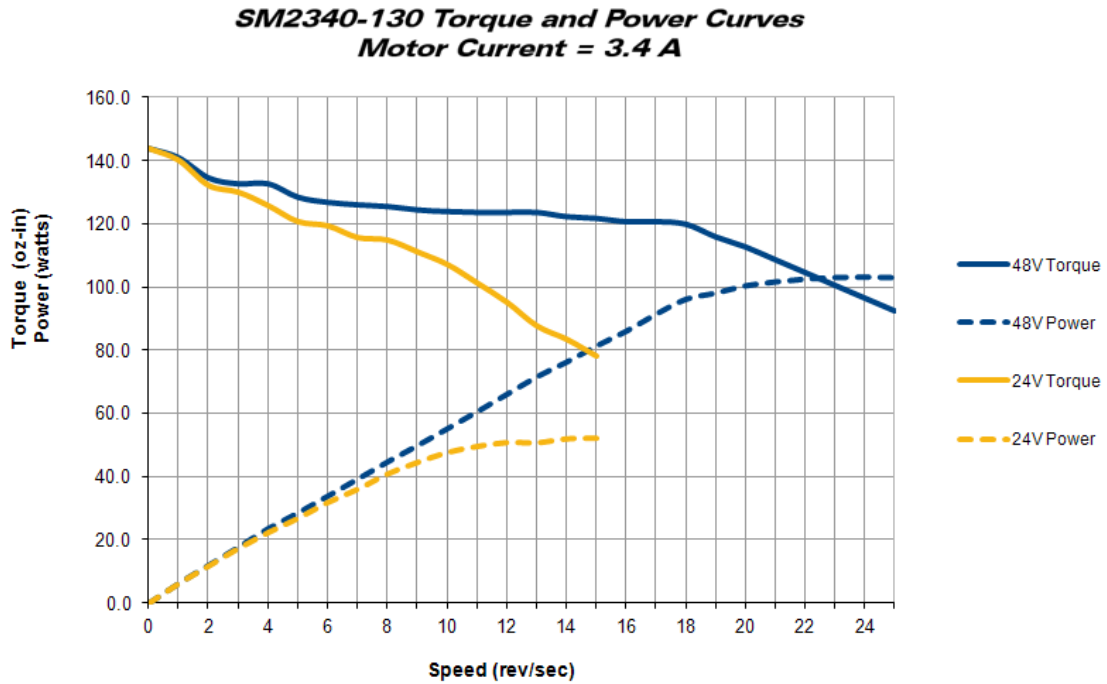

Figure T1.1 SM2340-130 Torque and Power Curves
**Example 1:** An SD2340-130 will be running at a maximum of 7 RPS and a 48 Vdc supply will be used. Based on the power curve in figure T1.1 on page 84, the combinations will generate a maximum of 40 Watts. Therefore a 48 Vdc supply with a power range of 60 W to 70 W can be used in the application.